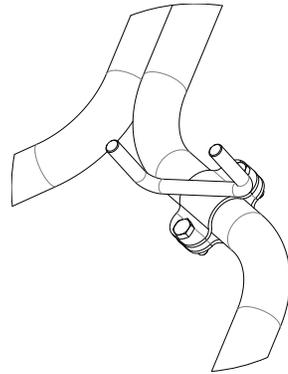

FIGURE 2
2. Attach lance bracket to lower FSC handle in approximate location shown in **FIGURE 2**. Use clamp; (2) bolts, washers and nuts to secure. Gun and lance brackets need to line up on the handle.